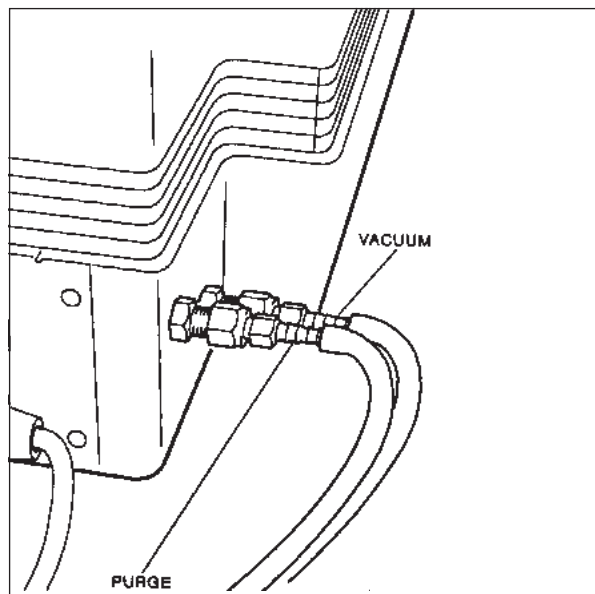

Figure 2.6
1. Locate the PURGE fitting on the right side of the DSC 2910 back (see Figure 2.6).